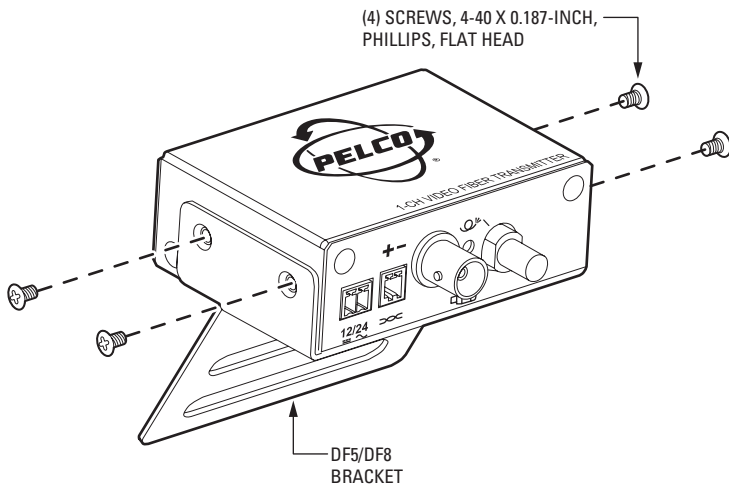

Figure 15. Attaching DF5/DF8 Bracket to FT8301A Transmitter
2. Using the four 4-40 x 0.187-inch Phillips flat head screws and DF5/DF8 bracket supplied in the DF5/DF8 accessory kit, attach the bracket to the transmitter (refer to Figure 15).